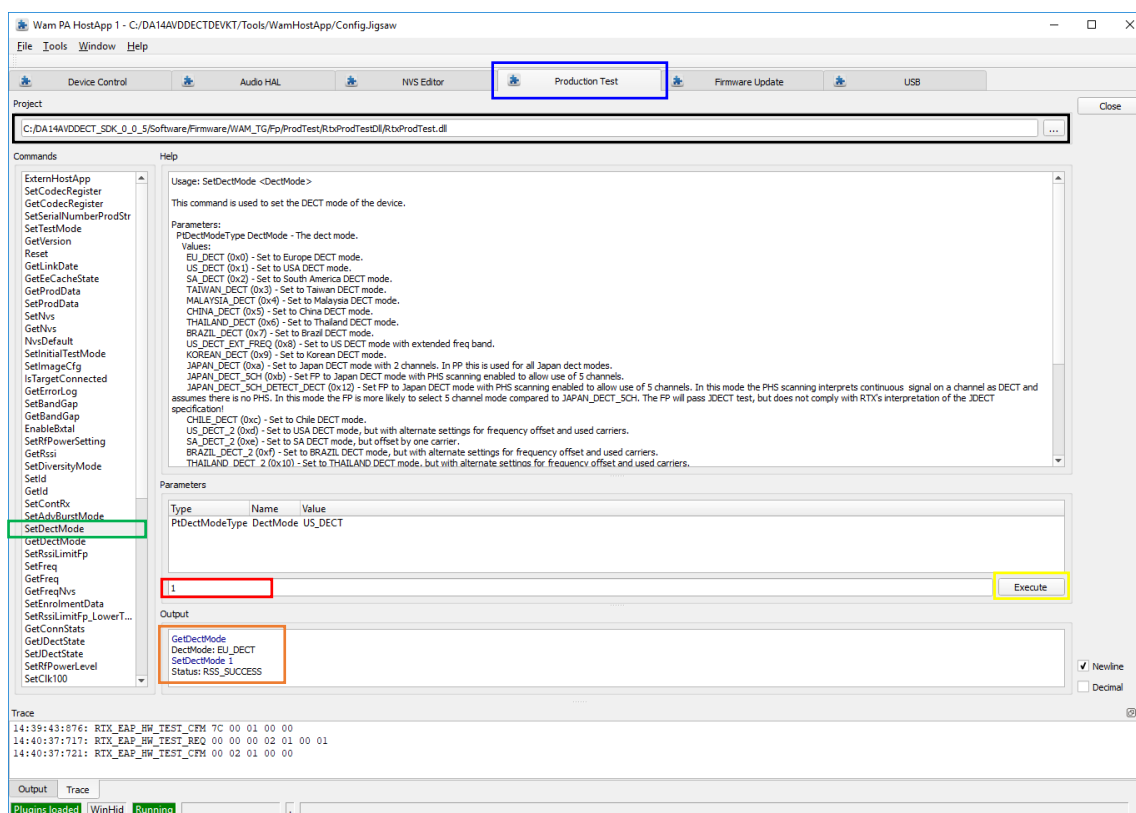

Figure 6: HostApp Screenshot for Changing DECT Mode
2. Figure 6 presents the GUI of HostApp. The DECT mode can be changed by following the details below: